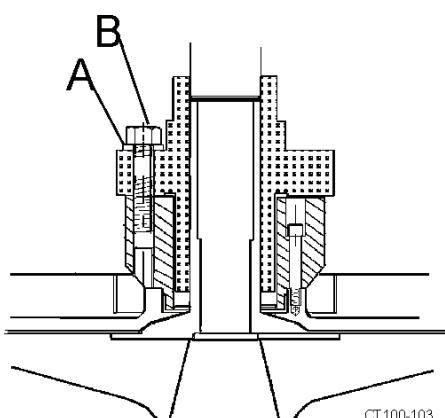

Figure 58 - Fasten Seal Unit in Place
7. Install the cartridge seal unit and use the retaining bolts (Figure 58, item B) and flat washers (Figure 58, item A) to secure the unit to the cartridge adapter. Make sure not to tighten the retaining bolts yet.